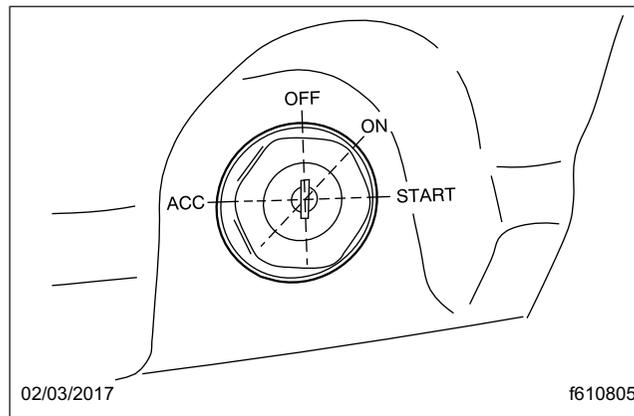

Fig. 12.1, Ignition Switch
4. Turn the ignition switch to the ON position and allow the self-check to complete. See Fig. 12.1.